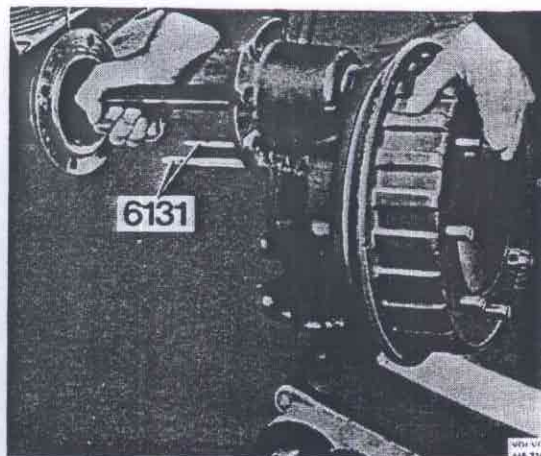

Fig. 46-130. Installing the wheel carrier
2. Fit the two guide pins 6131 in the lower holes in the wheel carrier housing, Fig. 46-130. Place the housing on a jack. Jack up the carrier so that the guide pins can go into rear axle casing. Rotate the differential carrier flange while pushing in the wheel carrier at the same time.